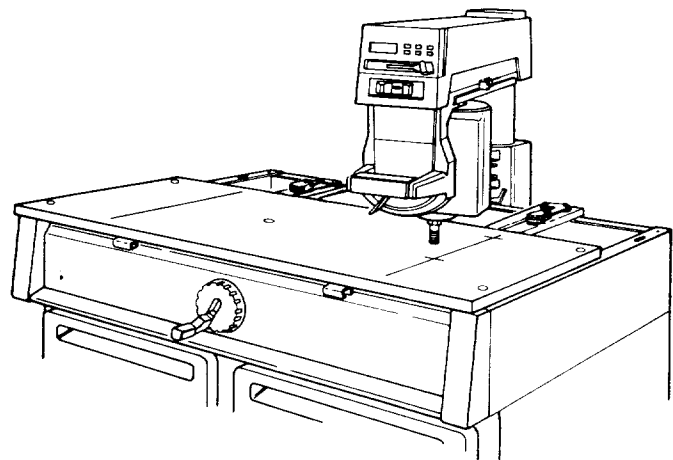

Fig. 78
4. Turn the *motor* until the *arbor shaft* is pointing straight down toward the *table*. (Figure 78)
6. Draw two lines on the *front table*, over the *table rails*. (Figure 78)